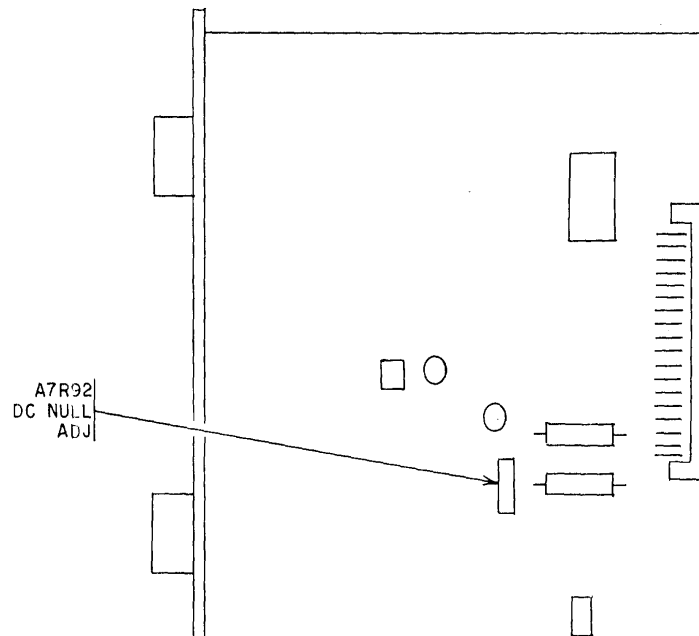

Figure 3. A7 mixer.
- (11) Remove ground from A6TP5 and adjust **DC NULL ADJ A7R92** (fig. 3) for  $0\text{ V} \pm 0.01\text{ V}$  dc (R).
- (12) Press **ON-STBY/POWER** pushbutton to **OFF**.